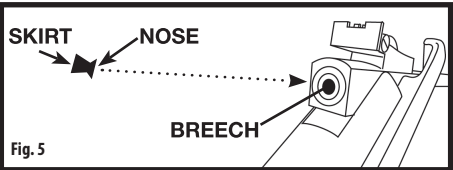

Fig. 5
1. With the air rifle in the cocked/open position, place one pellet, nose forward, into the breech (Fig. 5).